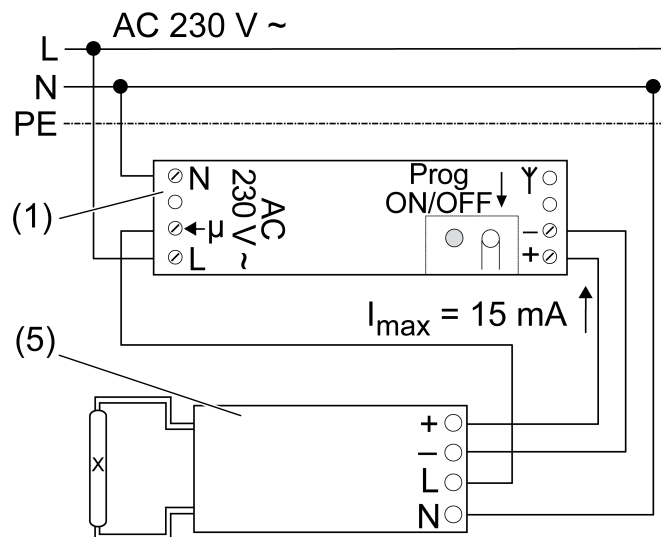

Figure 3
- Connect control unit (1) and lamp operating device (5) in accordance with connection diagram (Figure 3).